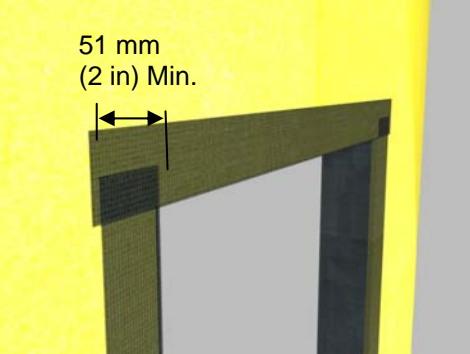

Figure 4
- 5) Install the AquaFlash System at the head overlapping the jamb pieces a minimum of 51 mm (2 in) – Figure 4.